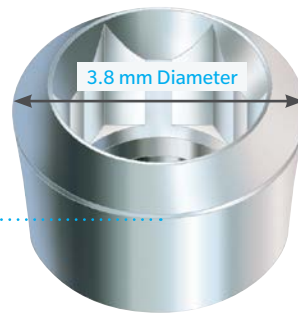

Fig. 2a
- 3.8 mmD platform - (Fig. 2a and b). A 40° external beveled shoulder tapers up from the height of contour of the implant to the coronal area, which has a 2.85 mmD opening. The height of this bevel is approximately 0.5 mmL above the height of contour. From the edge of the opening, a 15° tapered internal beveled wall leads into a 2.5 mmD flat-to-flat hexagon which is 1.85 mm deep. Below the hexagon is the threaded area where the fixation screw is received.